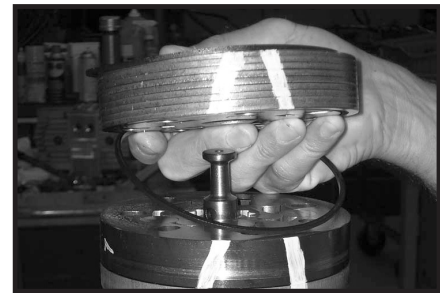

Figure 12
- Remove manifold (7) and inspect for cracks surface scoring, brinelling or spalling. Replace manifold if any of these conditions exist. SEE FIGURE 12. A polished pattern on the ground surface from commutator or rotor rotation is normal. Remove and discard the seal rings (4) that are on both sides of the manifold.